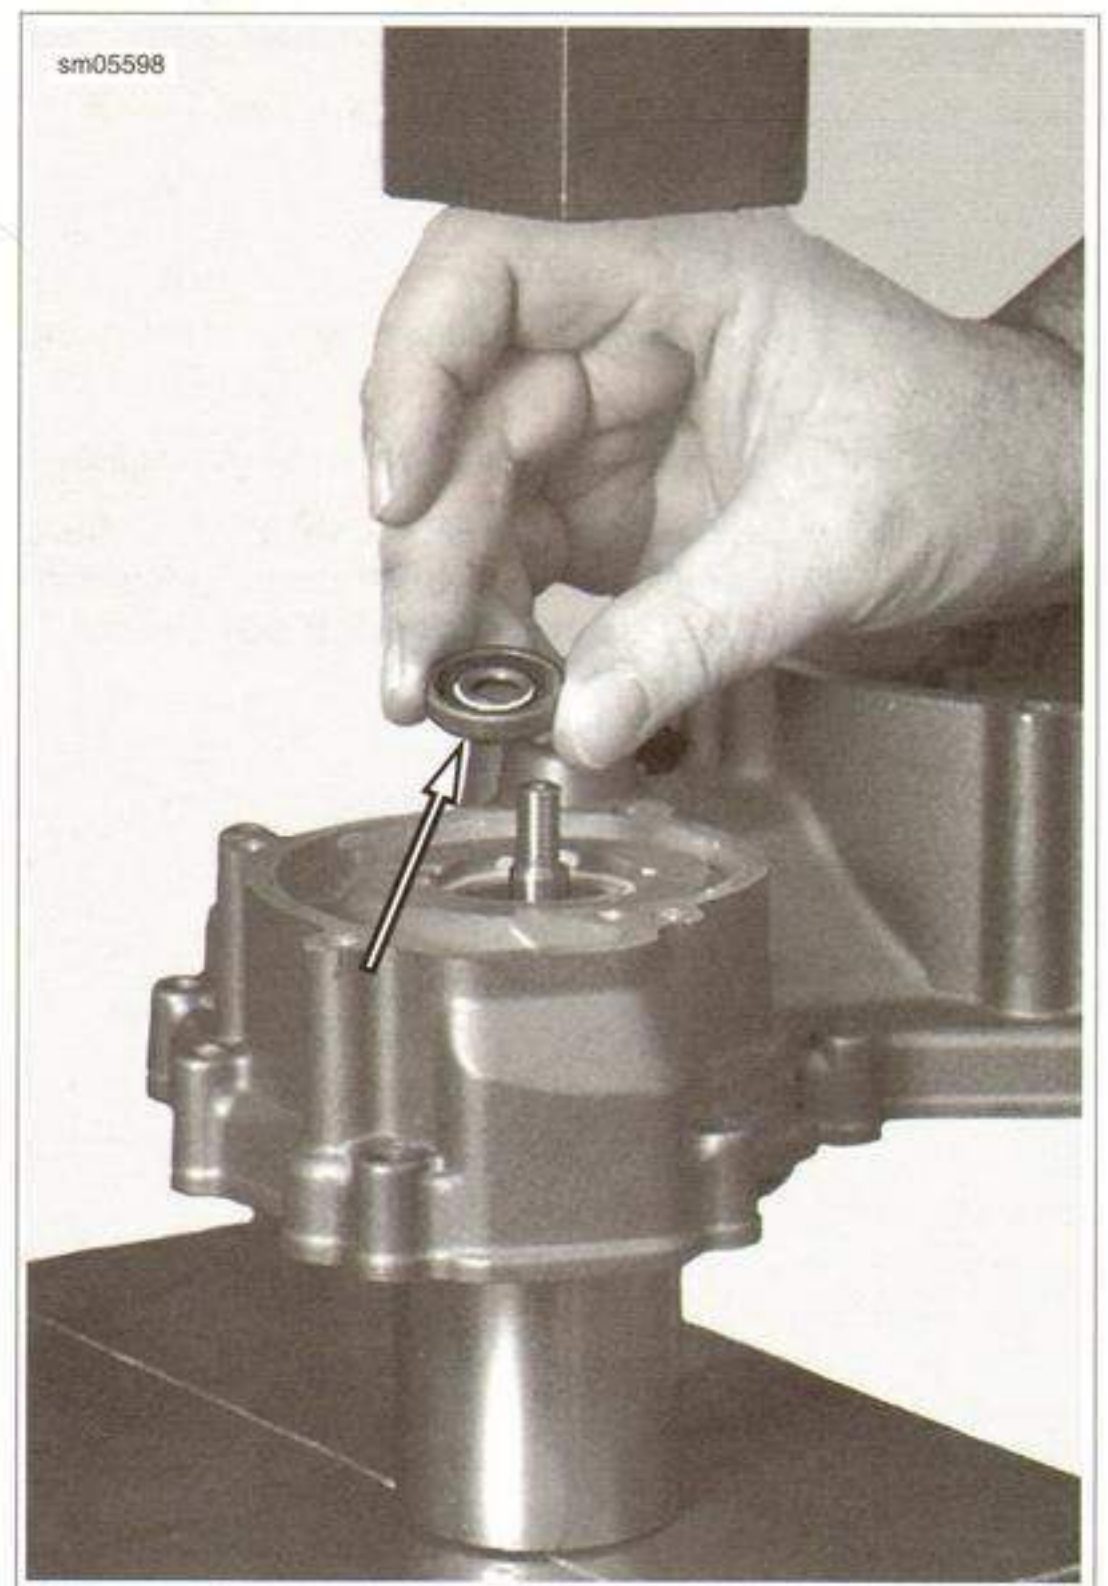

Figure 5-19. Inner Oil Seal
7. See Figure 5-19. Position oil seal onto water pump drive shaft with hollow side of seal facing in toward side cover (side with writing facing up).